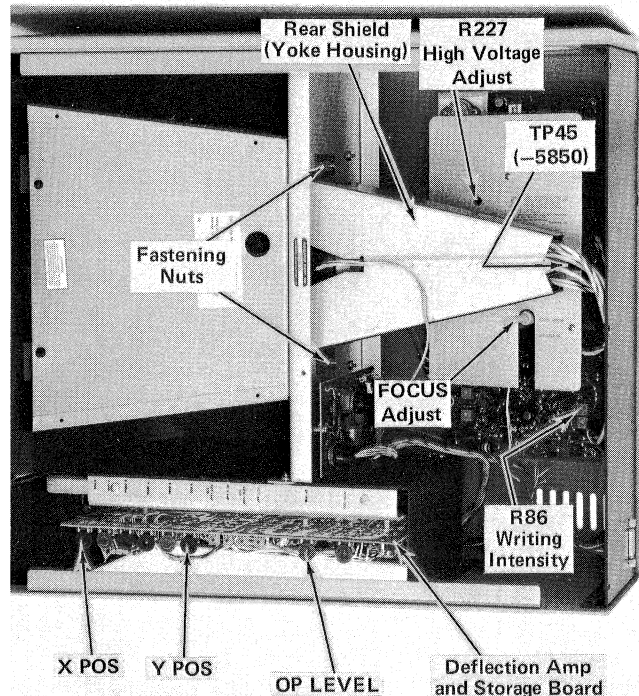
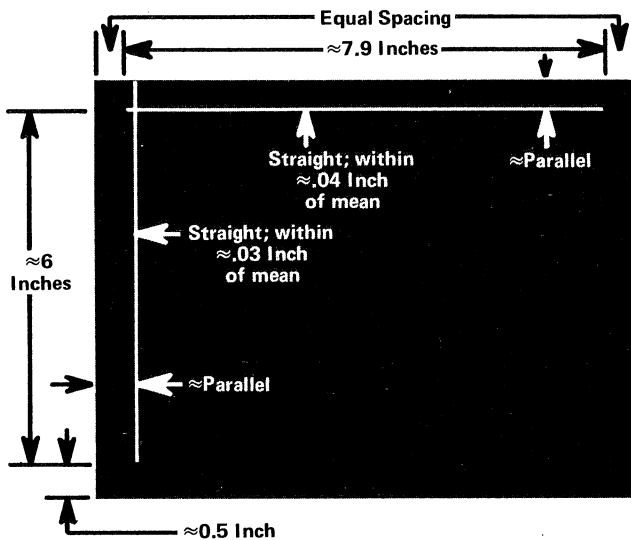

Fig. 4-6. High Voltage Adjustments and Test Points.
Fig. 4-8. Display Positioning, using Cross-hair Cursor.
a. With the Terminal off, set the voltmeter to read  $-5850$  V DC and connect it to TP45 on the High Voltage & Z Axis board in the back of the display unit. See Fig. 4-6.
c. After about one minute, press PAGE. Then check for  $-5850$  V at TP45. Adjust R227, High Voltage Adjust (Fig. 4-6) as necessary to obtain that value. Use a non-metallic screwdriver to minimize the possibility of causing a short circuit.
Storage board, Fig. 4-6) fully counterclockwise. (OP LEVEL will be adjusted properly in a later step.)
f. On the High Voltage & Z Axis board in the back of the display unit, rotate R86 Writing Intensity (Fig. 4-6) to increase intensity until the Alpha cursor can be seen near the center of the display. Do not make the cursor any brighter than is necessary. If the Alpha cursor doesn't appear, R81 on TC-1 may be set to the wrong limit, or the Terminal may be in Hold status. (Press SHIFT to clear Hold status.)
g. Press PAGE. The cursor should move to the top-left corner of the display. If the cursor was viewable in step f, and now has moved entirely out of the viewing area, turn X POS fully counterclockwise and Y POS fully clockwise to bring the cursor back into view. X POS and Y POS are located on the top of the Deflection Amp & Storage board in the display unit. See Fig. 4-6.
h. Press PAGE and check for the momentary appearance of a dot at the bottom-left of the cursor position. The dot may appear just before the cursor comes back into view. Adjust R86 (Fig. 4-6) until a dim dot momentarily appears at the bottom-left corner of the cursor position after the erase cycle, as just described. Then readjust R86 just to the point where the dot no longer appears after an erase cycle. The cursor should still be visible.
j. Adjust FOCUS ADJUST on the High Voltage & Z Axis board in the display unit (Fig. 4-6) to obtain a reasonably focused cursor. (Final focusing will be done later in the procedure.)
d. Check display positioning. It should meet the following requirements (see Fig. 4-8):
e. If lines are excessively long, set X GAIN and/or Y GAIN fully counterclockwise. (These, and other display adjustments are located on the top of the Deflection Amp & Storage board in the display unit. See Fig. 4-6. Use Fig. 4-8 as a display reference.)
- (1) Adjust X POS for approximate left-right centering of horizontal line.
- (2) Adjust Y POS to approximately center the vertical line segment described by its lower end and the point of intercept with the horizontal line (vertical thumbwheel at upper limit).
(3) If necessary, rotate the neck shield or yoke-mounting bracket (depending on assembly type) to obtain approximately equal spacing between the ends of the horizontal line and the top edge of the display area. Two nuts hold the yoke housing in place behind the center divider in the display unit (Fig. 4-6). Final adjustment and tightening of the yoke housing is done in a later step.
(4) Adjust X GEOM for approximate straightness of the vertical line; vertical line to be positioned as close to the left edge of the display area as possible by using the horizontal thumbwheel.
(5) Adjust Y GEOM for approximate straightness of the horizontal line, with the vertical thumbwheel at its upper limit.
(13) If the Zs do not store, gradually increase the OP LEVEL setting (Top of Deflection Amp & Storage board in display unit, Fig. 4-6) while entering Zs until they do store. Do not set OP LEVEL any higher than necessary.
(14) Press PAGE and again enter four Zs.
(15) Enter ESC and CTRL Z. The Zs should remain and the crosshair cursor should appear.
(16) Using the horizontal thumbwheel, place the vertical line so that it passes through a Z.
(17) Check vertical gain. The distance from the bottom of the vertical line to the top of a Z should be approximately 6.0 inches. If it is not, adjust Y GAIN to compensate for the error. (Adjust the bottom of the